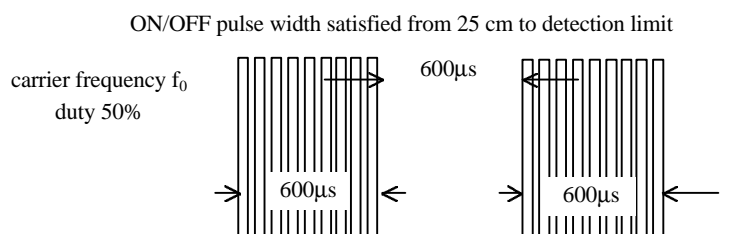

Fig 1. Burst Wave
(1) Measuring place .....Indoor without extreme reflection of light.
(2) Ambient light source... Detecting surface illumination shall be 200±50Lux under ordinary hite fluorescence lamp of no high frequency lighting.
(3) Standard transmitter ...Burst wave indicated in Fig 1. of standard transmitter